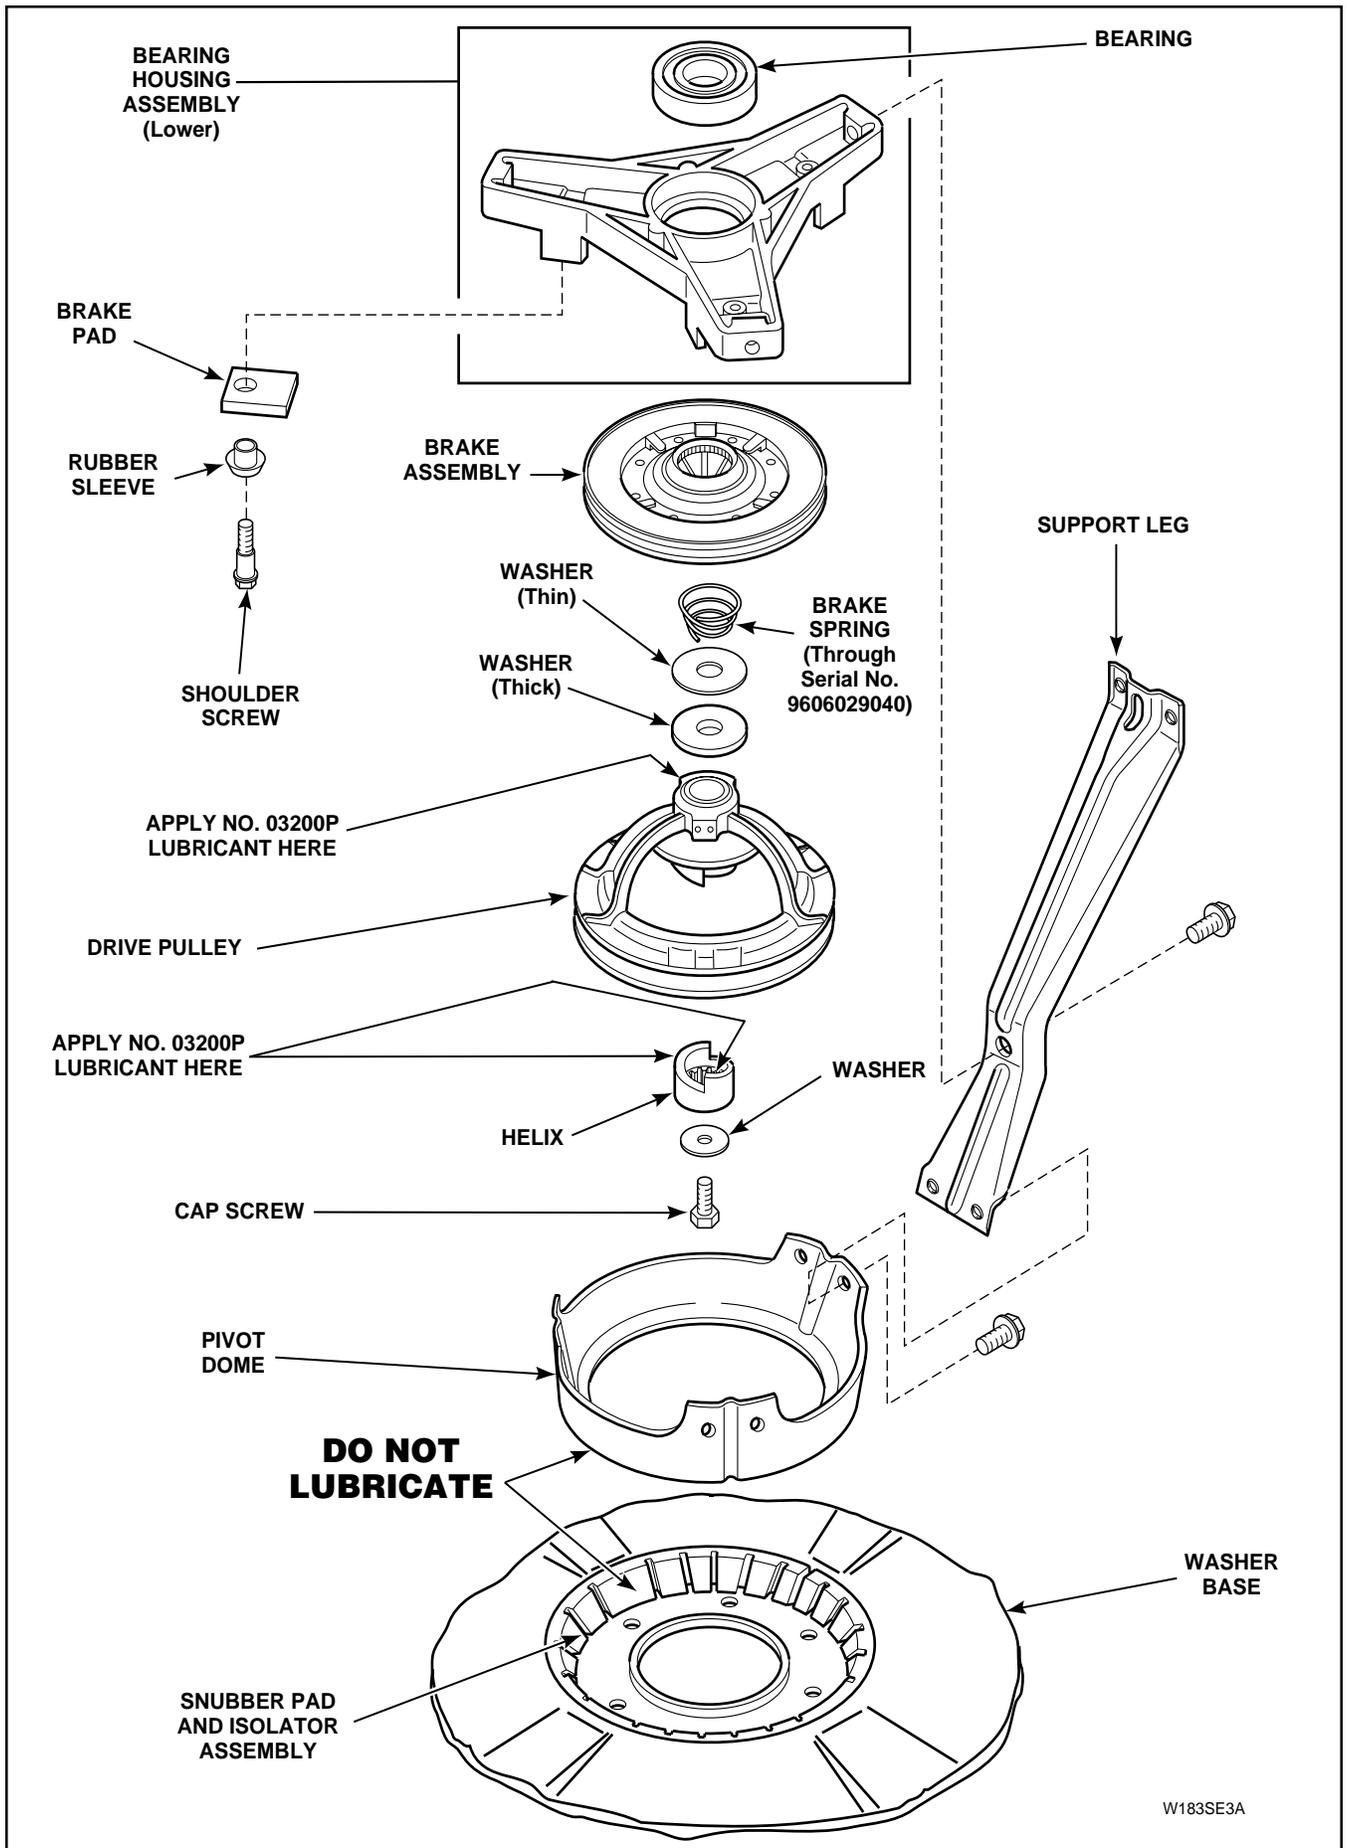

Figure 43
**NOTE:** When reinstalling pulley, place a small amount of No. 03200P Lubricant to top side of drive pulley that will be contacting flat washers. Lubricate helix ramps and bore with a small amount of No. 03200P Lubricant. See *Figure 43*.
- b. Remove two flat washers from transmission shaft, *Figure 43*.
**IMPORTANT:** Two large flat washers must be in place between brake spring and drive pulley when reassembling. Thicker washer must contact top side of drive pulley. See *Figure 43* for assembly sequence.
Using a right angle needle nose pliers, remove brake spring from around lower transmission tube (located inside brake assembly), *Figure 43*.
- d. Remove three screws holding brake pads, rubber sleeves and brake assembly to lower bearing housing, *Figure 43*, then remove brake assembly and pads off bottom of transmission assembly.
**NOTE:** Refer to *Figure 43* for assembly sequence.
- b. Remove three screws holding lower bearing housing to tub support legs, *Figure 43*.